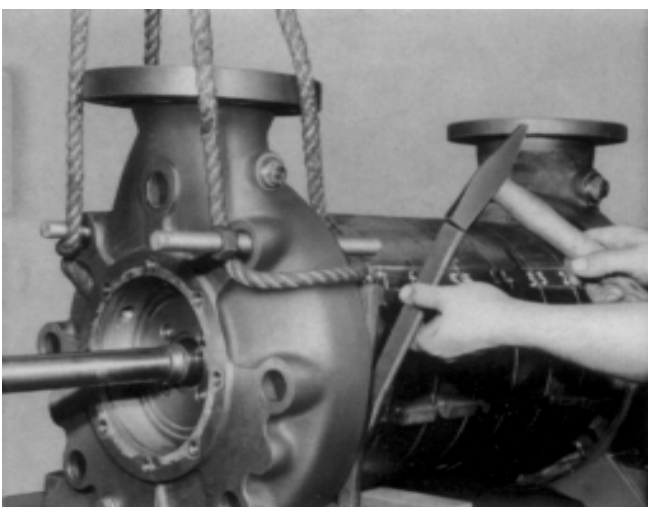

Fig. 37 Forcing off the discharge casing.
2. Unscrew nuts (920.1) at discharge end or tie rods (905) and pull the tie rods out of the suction and discharge casings.
3. Underpin the pump at the stage casing (108) with wooden blocks or an erection trestle, so as to free the component with is to be dismantled next.
4. Force discharge casing (107) together with diffuser/last stage (171.2) off stage casing (108) and lift it off. (see Fig. 37 and 38)